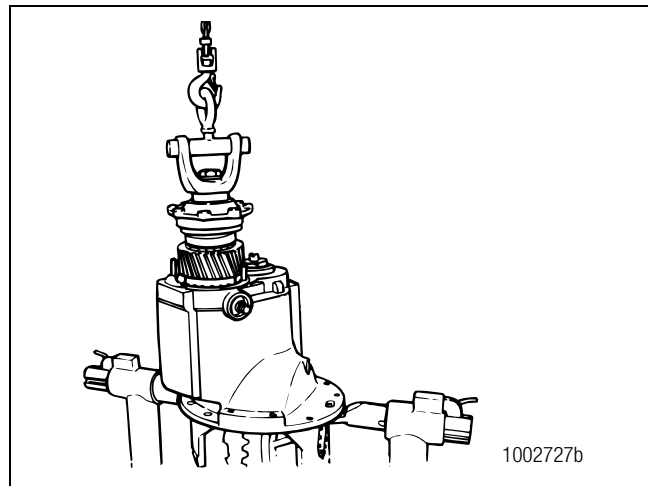

Figure 3.22
- A. Lift the input shaft assembly until the bearing cage is separated from the carrier. If necessary, tap on the bearing cage with a brass or plastic mallet to separate the cage from the carrier. Figure 3.22.